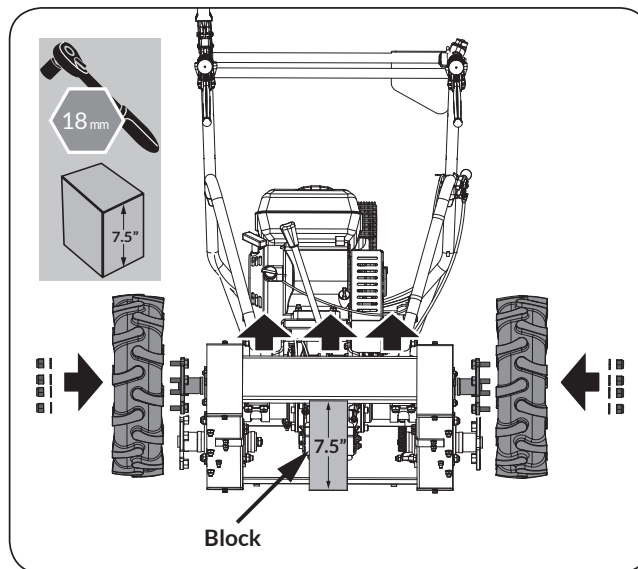

Figure 3a
4. Once the wheels are secure lift the machine and remove the block. (See **Figure 3a**)